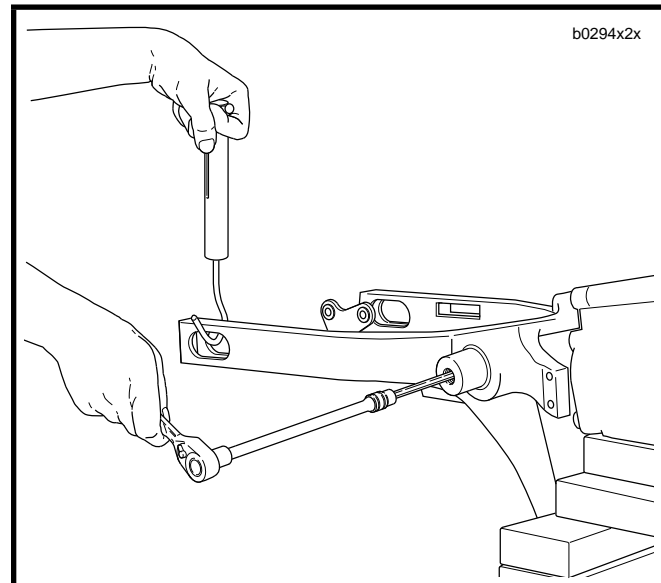

Figure 15. Adjusting Preload
1. See Figure 15. Adjust swingarm preload by tightening the threaded rod. Preload should measure 3.5-5.5 lbs (1.6-2.5 kg).